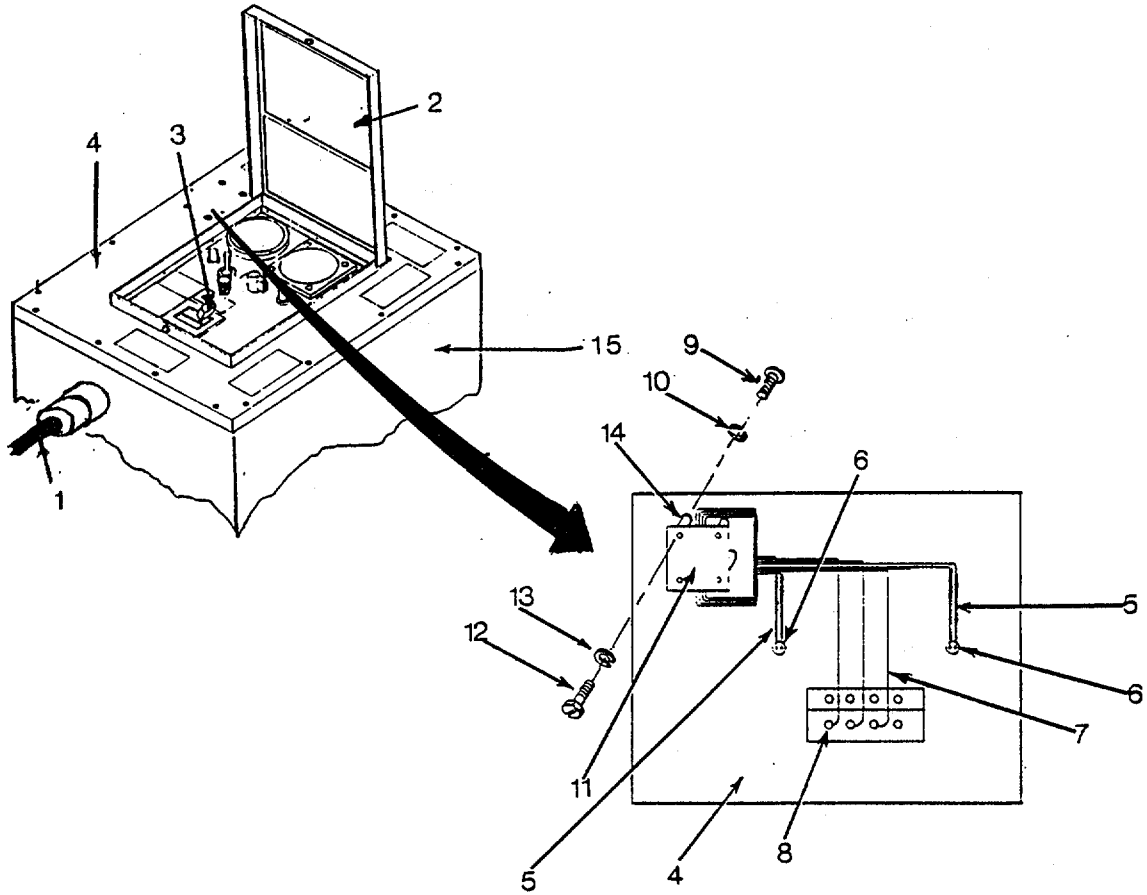

Figure 4-23. Replacing Circuit Card Assembly, Power Distribution Box Assembly
e. Repair by replacing Circuit Card Assembly, Power Distribution Box Assembly. (See figure 4-23.)
- (1) Request generator operator shut down generator and disconnect main power cable (1).
- (2) Raise control panel cover (2) and request Module C supervisor place circuit breaker (3) in OFF position.
- (3) Remove control panel assembly (4). (See 23a. above).
- (4) Tag and unsolder wires (5) from phase lights (6), and wires (7) from test switch (8).
- (5) Remove screws (9), lockwashers (10), and circuit board (11).
- (6) Remove screws (12), lockwashers (13), and stand offs (14).
- (7) Position stand offs (14) on replacement circuit board (11) and secure with lockwashers (13) and screws (12).